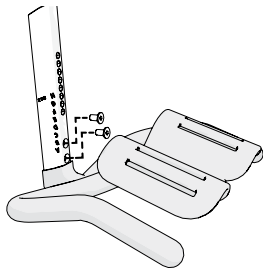

Figure 8
1. Position the handlebar post onto the handlebar assembly (Figure 8). Attach it using two bolts **5** and tighten them with a hex key **10**.